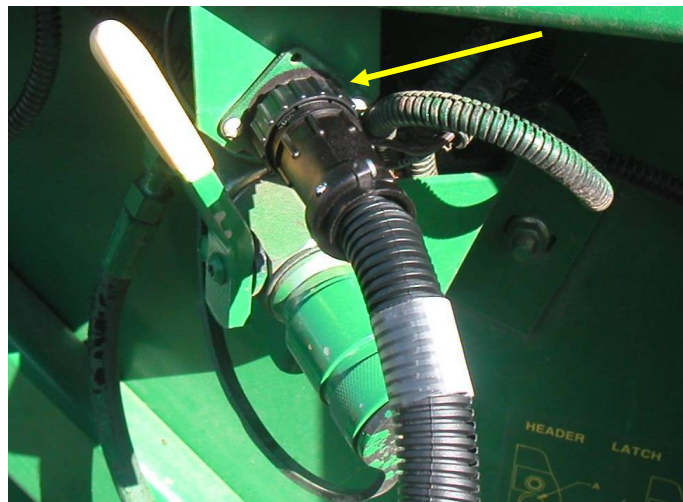

Figure 11
1. If older model heads with 16 pin electrical cables are to be converted to 60 series combines, two adapter cables must be used. **LAN-EC100** (16 pin to 31 pin) plus **LAN-EC300** (31 pin single point hookup). (See **Figure 11**)